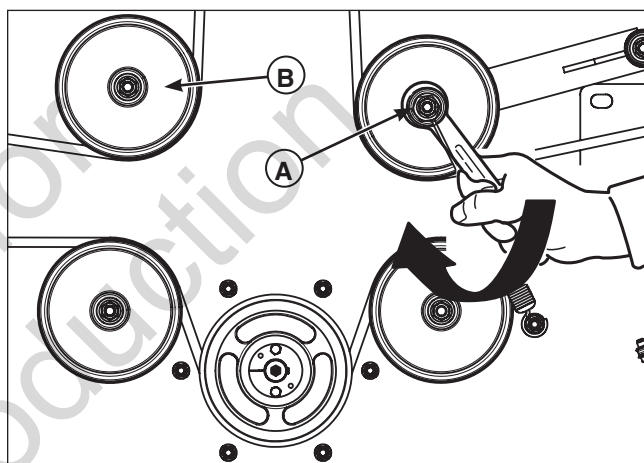
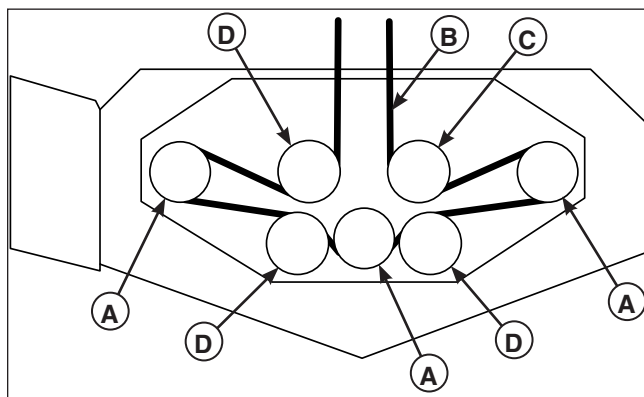

Figure 52. Mower PTO Belt (72" Mower Deck)
Figure 53. Mower PTO Belt Routing
2. **For 72" deck:** Using a 3/4" combination wrench, place the box end on the nut (A, Figure 52) securing the idler pulley located in the end of the idler arm. Carefully rotate the wrench CLOCKWISE, which will relieve the tension on the belt exerted from the idler arm.
3. Slide the drive belt over the edge of the stationary idler pulley (B). Carefully release the tension on the breaker bar or combination wrench until the idler arm comes to a stop.
4. Remove the old belt and replace with a new one. Make sure the V-side of the belt runs in the pulley grooves (Figure 53).
5. **For 72" deck:** Install the drive belt on the PTO pulley, the spindle pulleys and all idler pulleys except the stationary pulley (B, Figure 52). Carefully rotate the combination wrench CLOCKWISE and install the belt on the stationary idler pulley (B). Carefully release the tension on the combination wrench.